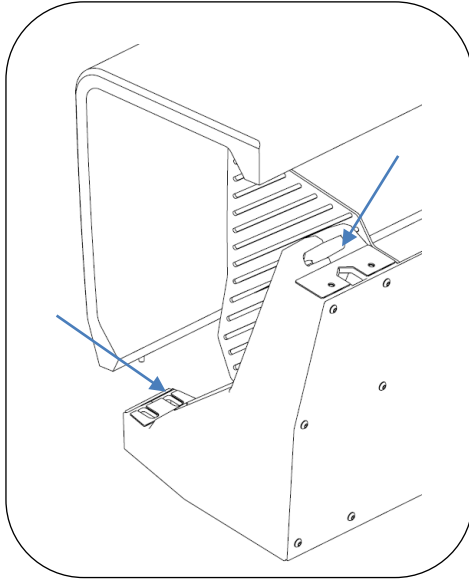
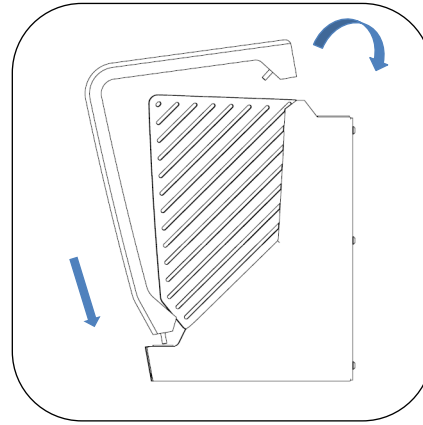

Fig. 10
Fig. 11A
12. Align bottom set screws on concrete in the correct slots on the supports, see Fig. 10. Lift concrete into bottom set of slots, then rotate up and toward the center of the bench. Use caution to prevent set screws from scraping or damaging concrete. Once the top set of set screws is engaged in the slots on the top of the support, slide the concrete outward. This will engage the top set screws and prevent the concrete from rotating off the supports. Refer to Figs. 11A and 11B.